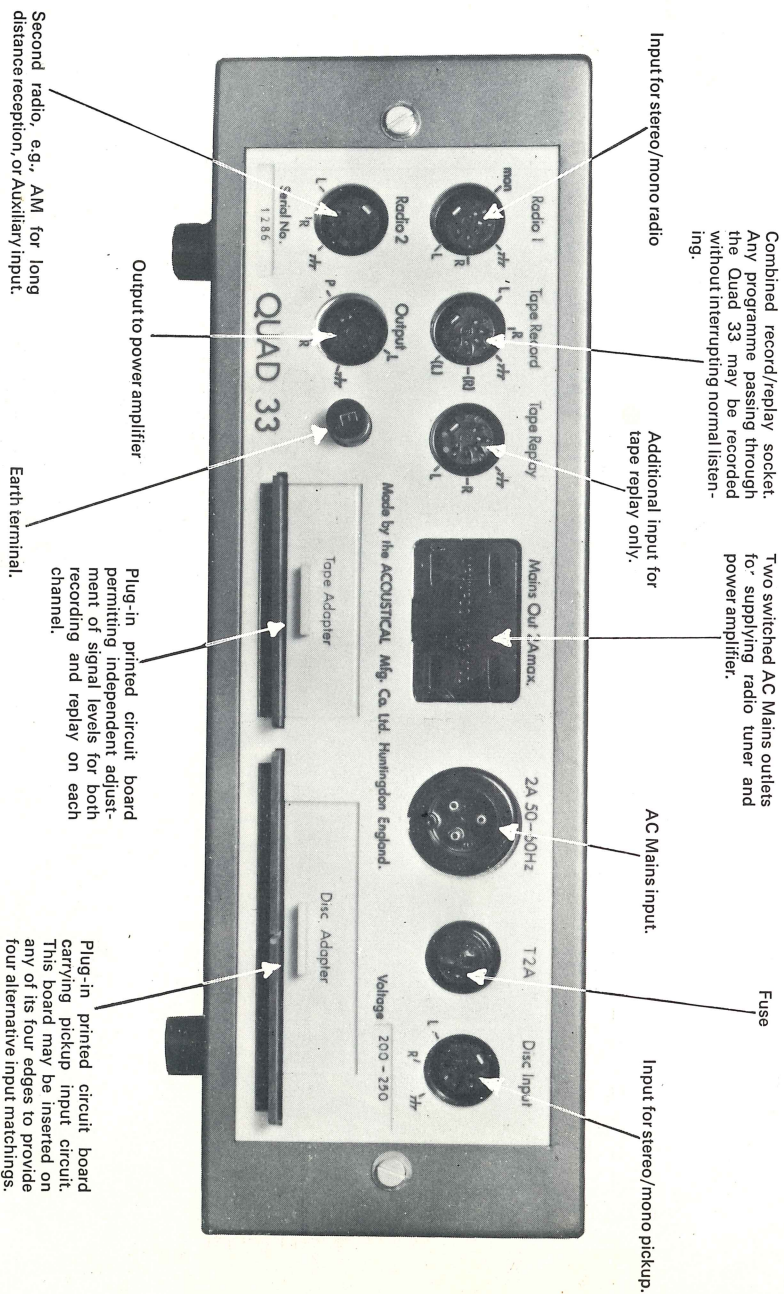

FIG. 10
Two leads are supplied with the control unit. That with a 4-pin connector at each end is reversible and connects the control unit output to the power amplifier input. The other connects the switched mains supply from the control unit to the power amplifier and the 2-pin plug at the control unit end of this lead is reversible. (See Fig. 10) Longer leads are permissible where required for special installations (see Specification on page 21).
Radio (See Fig. 10)
The mains supply for these tuners should also be taken from the mains outlet sockets at the rear of the Quad 33. (See Fig. 10).
Normally either one or both tape sockets may be used for recording and replay as convenient the (L) and (R) pins (See Fig. 10) of the record socket being linked inside the control unit to the corresponding pins of the replay socket. Where the levels and impedances are such that cross-talk can appear in the cables and connectors it will be advisable to use completely separate connections for recording and replay.